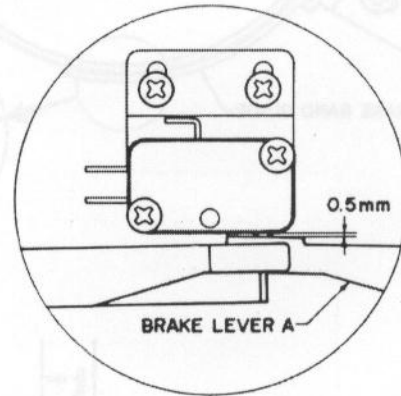

Fig. 12
- 4) As shown in Fig. 12, when the plunger is pulled, tighten Brake Solenoid Screws C and D at position at which the gap between Brake Lever A and the body of Brake Micro Switch is 0.5 mm at the narrowest place.